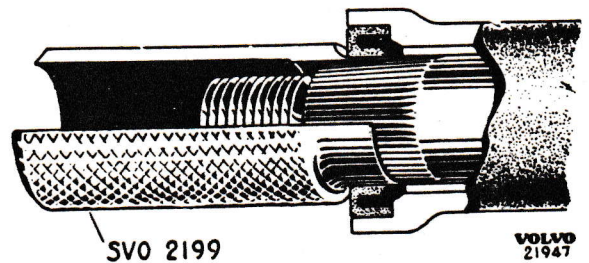

Fig. 34. Fitting pitman arm shaft
7. Apply the protecting sleeve SVO 2199 as shown in Fig. 34 and fit the pitman arm shaft into the steering box housing. Apply a few drops of oil to the adjusting screw in the pitman arm shaft.